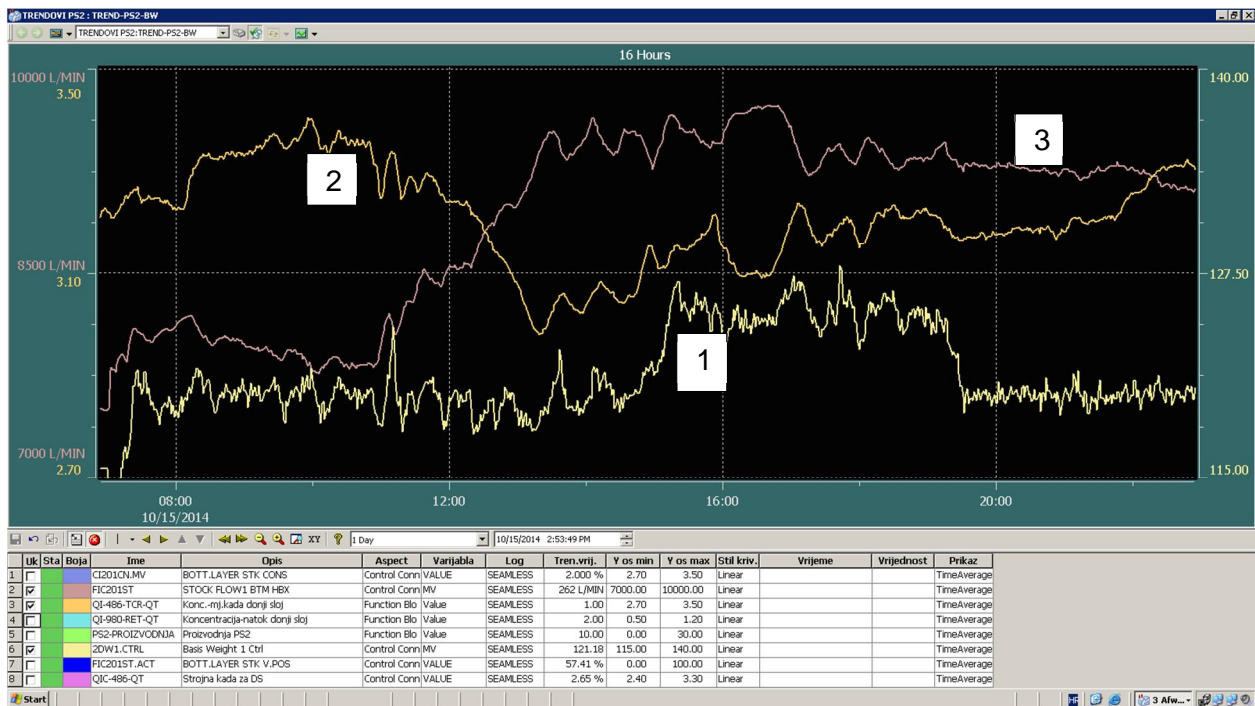

Fig 6: Basis weight control based on total consistency measurement
Based on the project goals the basis weight on PM2 requires stabilization which shall be addressed by controlling the basis weight (Figure 4, tactis 1). Figure 6 shows the basis weight variability (1) versus the total consistency in the mixing chest (2) and the thick stock flow (3) to the paper machine. The basis weight variability is  $125 \text{ g/m}^2 \pm 2.5 \text{ g/m}^2$  caused by consistency variability. A stable consistency starting at 20:00 o'clock shows a reduction of basis weight variability to  $120 \text{ g/m}^2 \pm 0.5 \text{ g/m}^2$